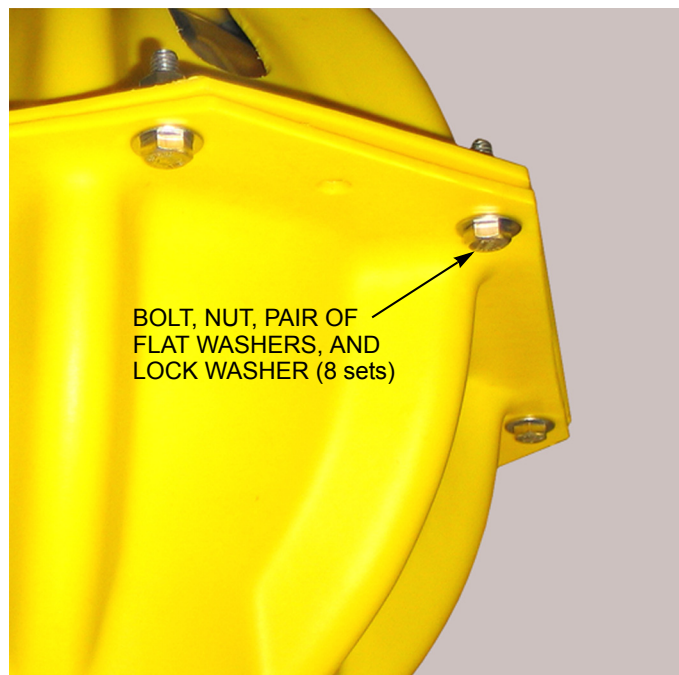

Figure 4-1 Location of Hardware that Secures the Two Halves of the Hard Hat
3. Using the two 3/4-inch adjustable wrenches, remove the eight sets of hardware that secure the two halves of the hard hat—eight each a bolt, a nut, a pair of flat washers, and a lock washer, as shown in Figure 4-1.